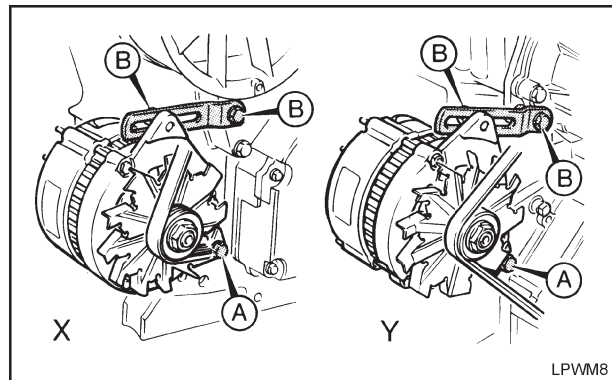

Figure 2.8.1 Magnetti Marelli Alternator Adjustment Arm
3. Ensure the adjusting arm is fitted with the offset the correct way round for the type of engine as shown in 'Figure 2.8.1'